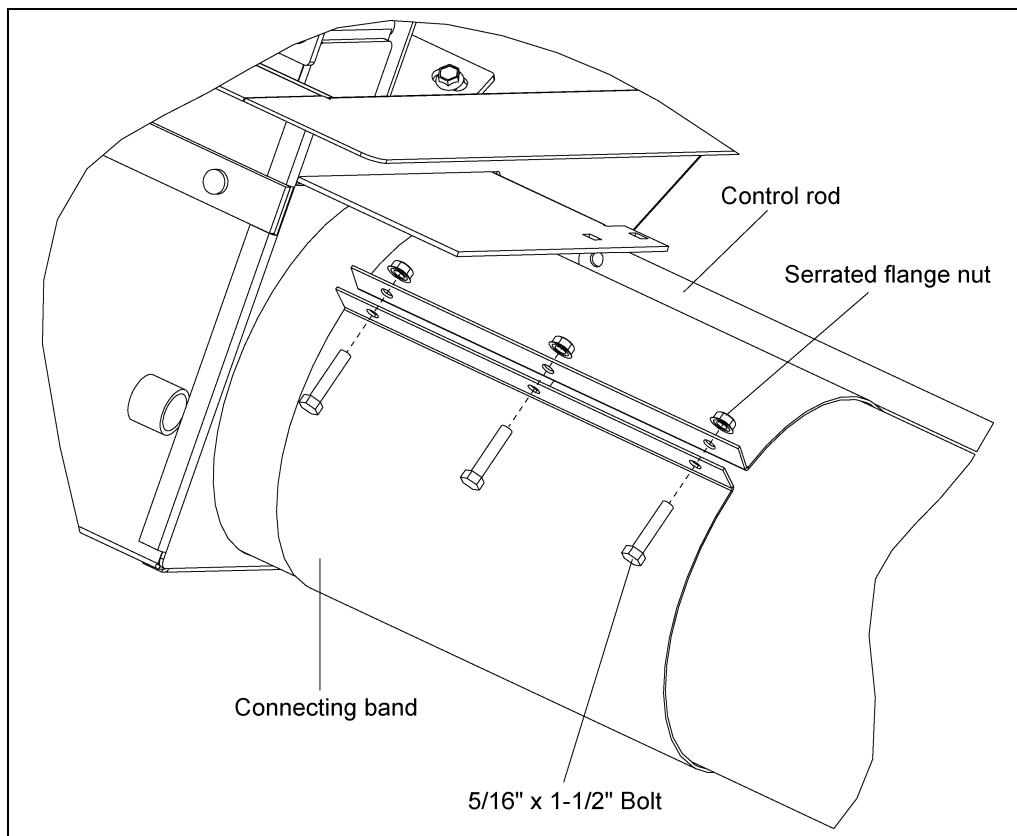

Figure 4H
5. Slide the connecting band until it is equally positioned over both the unload tube and the center well tube. Position the connecting band so that it will not interfere with the control rods. (See Figure 4H.)